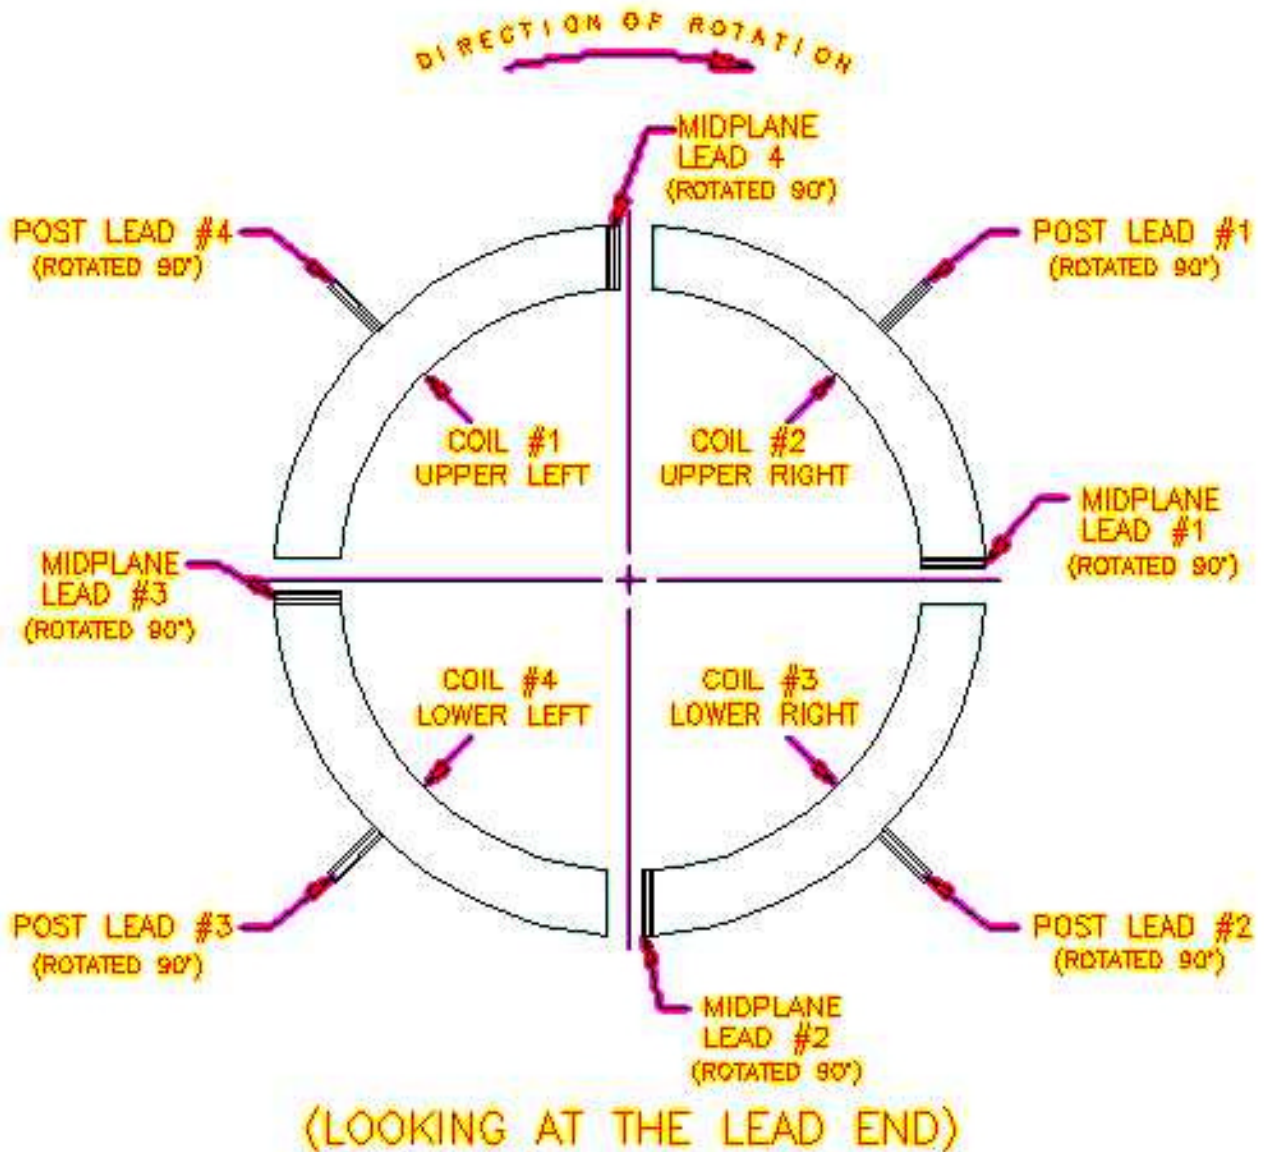

FIGURE 1
**In all 13cm insertion quadrupoles, the eight exiting leads have been rotated 90° clockwise in the spiral assembly (see Fig. 1).**